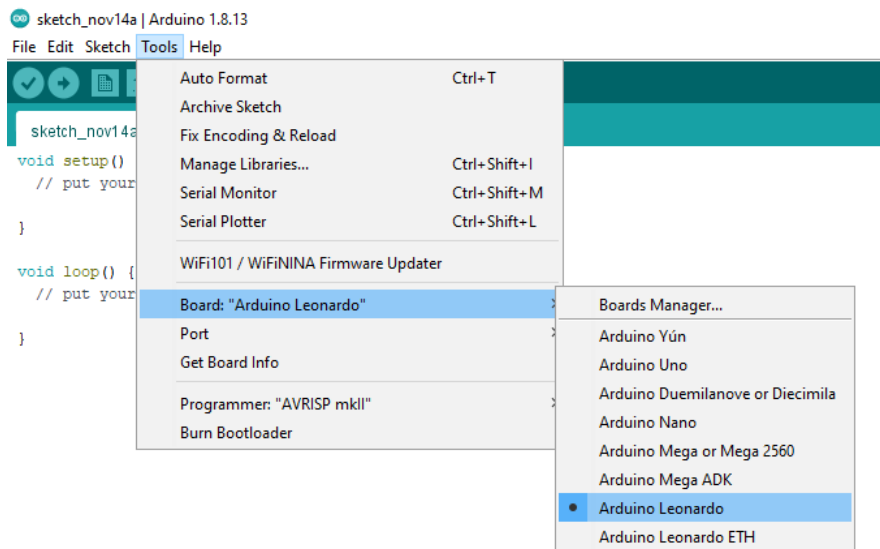
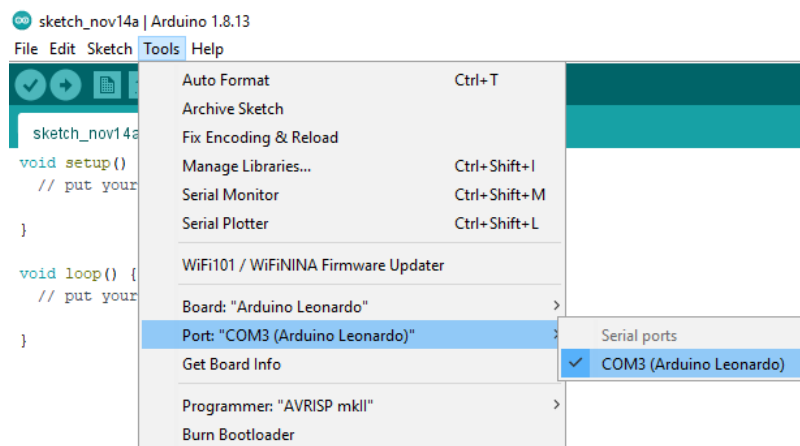

Figure 14.1: Configuring Arduino IDE Board
Figure 14.2: Setting The Port
2. Open Arduino IDE. Connect your Arduino to the computer and wait for few seconds. Then in Arduino IDE click **Tools** → **Board** → **Arduino Leonardo** as shown in Figure 14.1. Finally set the correct **PORT** from the same section as shown in Figure 14.2